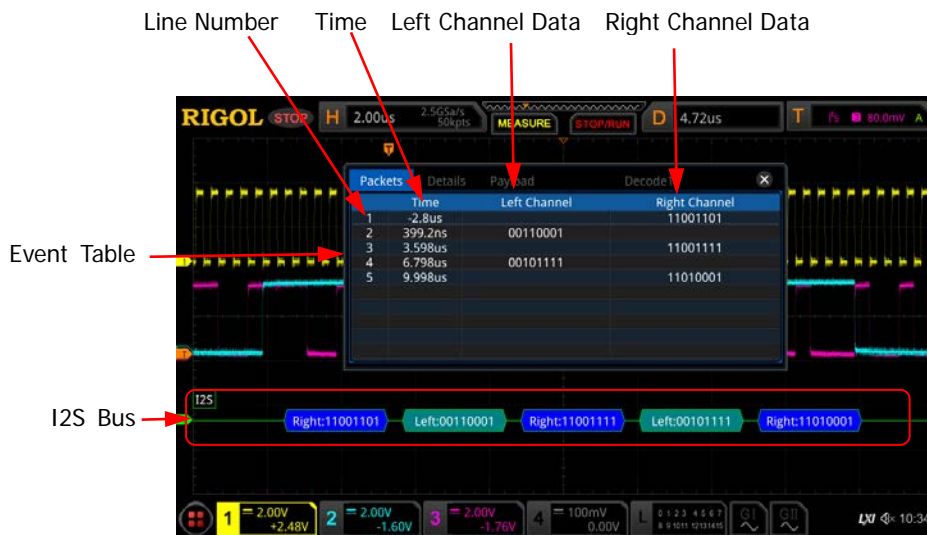

Figure 12-14 I2S Decoding Event Table
- Open or close the event table: Press **Event Table** continuously to enable or disable the event table. When you enable the event table, the following figure is displayed, as shown in Figure 12-14. You can also enable the touch screen to tap the icon  at the upper-right corner of the table to close the event table. Besides, when the operating status is "STOP", you can also rotate the multifunction knob  to select a specified line and view the corresponding decoding information.